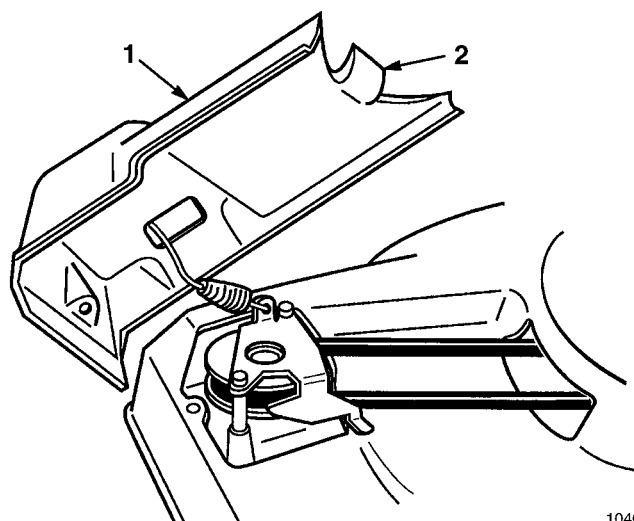

Figure 29
1. Remove screw and slide belt cover to rear, unhooking tab on front of cover from deck opening. Tilt cover up to the side and remove debris (Fig. 29) from under cover and pulley groove.